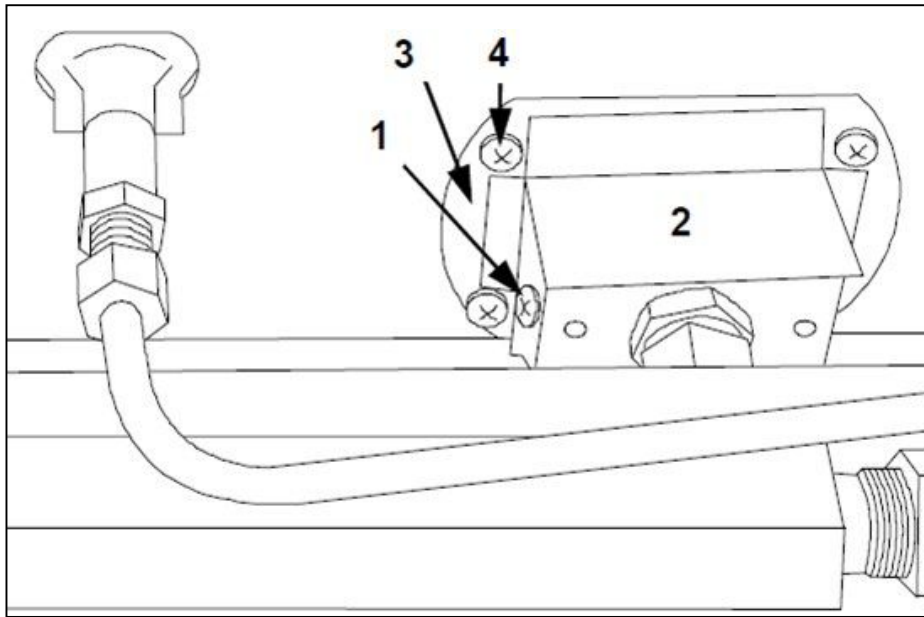

FIG.16
- Remove the burner air damper (FIG.16-ref.2) by unscrewing the screw (FIG.16-ref.1) and removing it laterally;
- Unscrew the 4 screws (FIG.16-ref.4) and remove the burner (FIG.16-ref.3) and replace it;